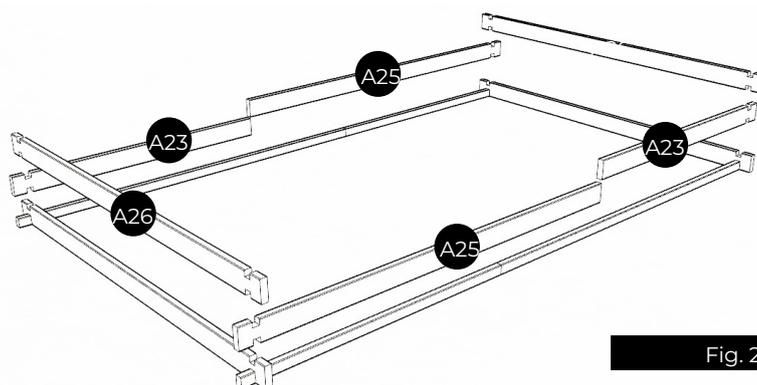

Fig. 2
**SECOND ROW OF BOARDS:** • Arrange the boards for the second row as shown in Figure 2. • To assemble the boards properly, use the wooden wedge included in the structure kit. Do not strike the boards directly—it could damage the dowels and weaken the frame. Avoid using metal tools to hit the boards, as this can permanently ruin the wood. • Make sure each board is fitted tightly from the start. There should be no gaps between rows to prevent misalignment of the upper boards.